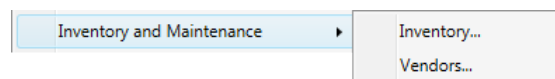

Figure 3-17– Inventory and Maintenance Menu
- **Inventory and Maintenance Menu** (see Figure 3-17): This option allows the operator to manage the inventory and vendors of ITS devices; the software is described in detail in Section 3.2.10.